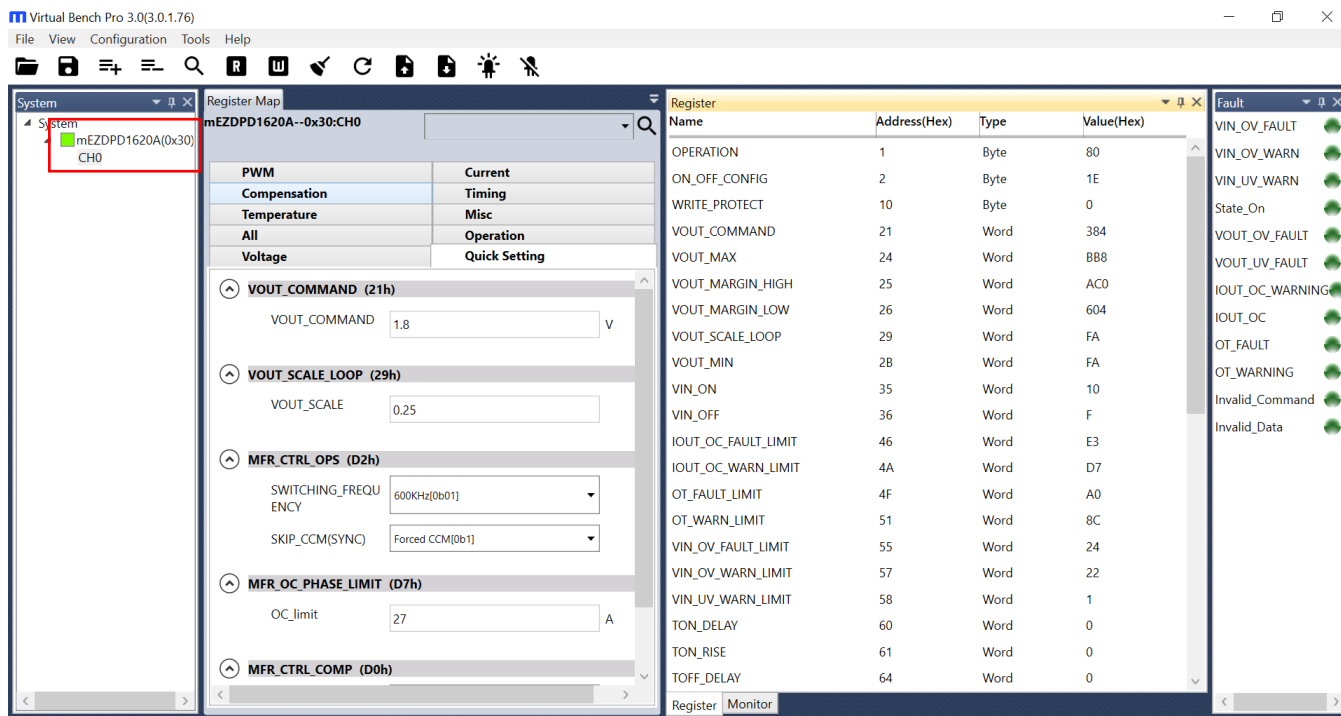

Figure 6: Green Indicator Shows Successful Connection
- a. If the GUI detects the power module, “mEZDPD1620A” will appear on the left panel and the indicator to the left of “mEZDPD1620A” will turn green (see Figure 6).